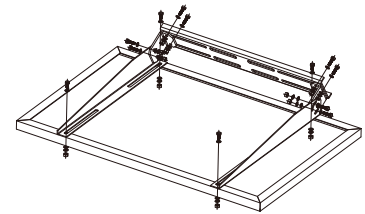

figure 1
**Step1.** Attach the PV module to the mounting bracket using the nuts, bolts, washers, and lock washers provided. See **figure 1**. Caution: If additional holes on the frame of the PV module are needed, great care must be used when drilling. Damage to the module can easily occur rendering it useless. You may find it helpful to lubricate the nut and bolt to facilitate easy removal at a later date.